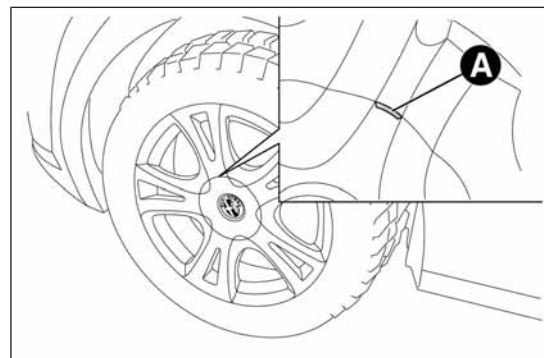

fig. 119
- ☐ **for versions with alloy rims:** shake the car to facilitate detachment of the rim from the wheel hub. Some versions may be fitted with alloy wheels with a hub cap (fig. 119). To remove the hub cap, insert the screwdriver into housings A in order to access the fixing bolts. Replace the wheel as described previously;